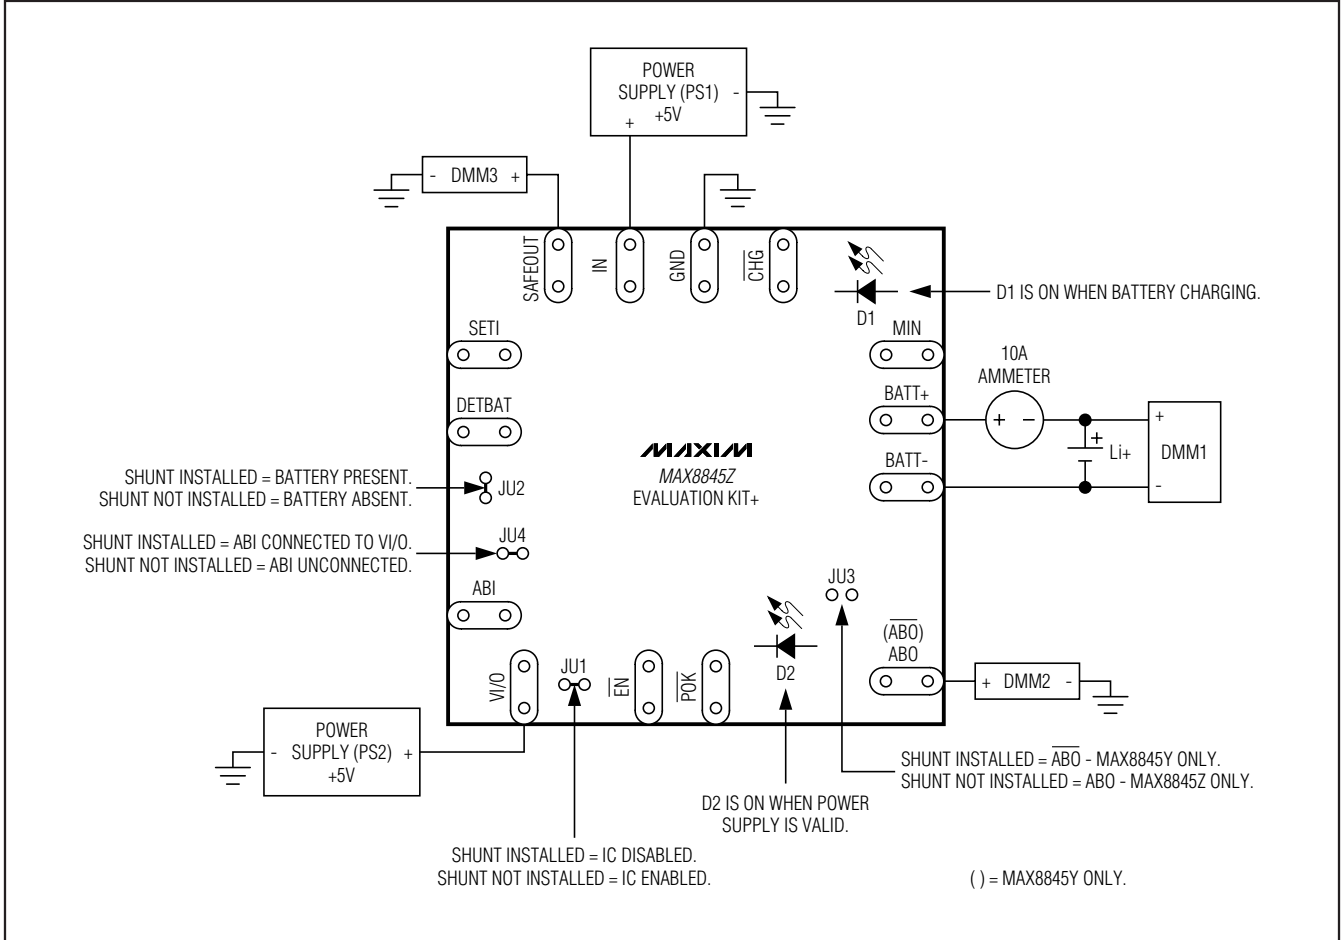

Figure 1. Test Procedure Setup for MAX8845Z EV Kit
The MAX8845Z EV kit is a fully assembled and tested surface-mount board. Follow the steps below and Figure 1 to set up and verify the MAX8845Z and board operation:
- 8) Observe correct Li+ cell polarity. Connect the single-cell Li+ battery and 10A ammeter, as shown in Figure 1. The positive lead of the ammeter must connect to BATT+ and the negative lead to the positive terminal of the Li+ battery.
To evaluate the MAX8845Y and board operation, see Figures 1 and 3 and follow the procedure on the next page. The MAX8845Y procedure is similar to the MAX8845Z procedure with a few minor differences.
Follow the steps below and Figure 1 to set up and verify the MAX8845Y and board operation:
- 8) Observe correct Li+ cell polarity. Connect a single-cell Li+ battery and 10A ammeter, as shown in Figure 1. The positive lead of the ammeter must connect to BATT+ and the negative lead to the positive terminal of the Li+ battery.